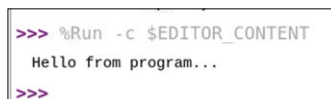

Figure 2.14: Output of the program.
- Click the green arrow icon at the top of the screen (under **Run**) to run your program. The output of the program will be displayed in the lower **Shell** part of the screen as shown in Figure 2.14.